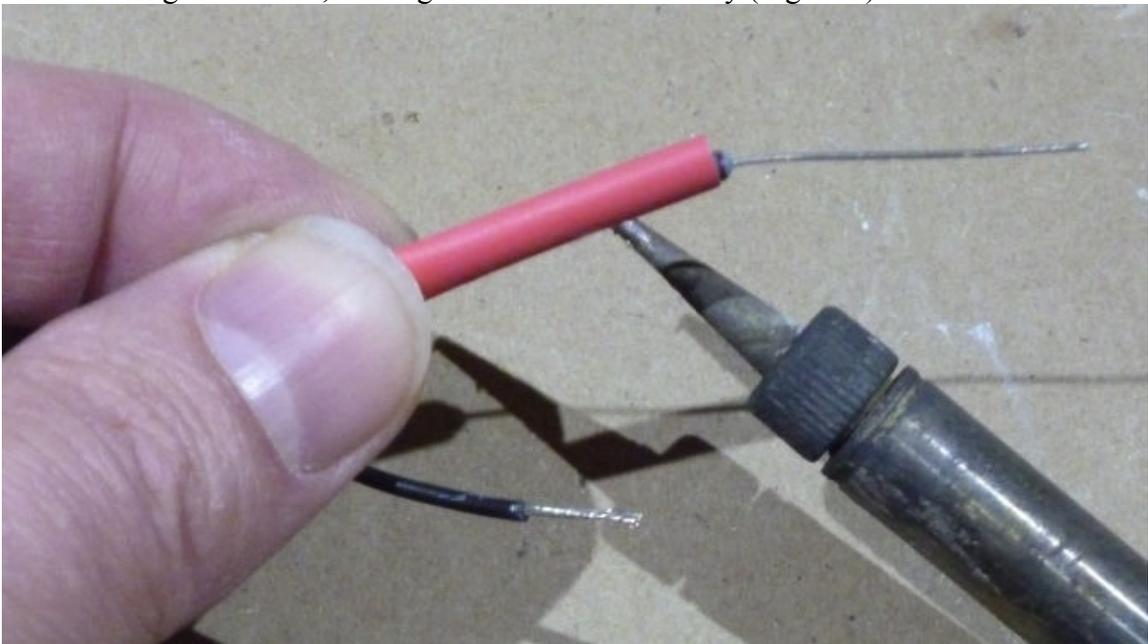

Figure 6-shrink the tubing with heat from the soldering iron
10. Slide the soldering iron back and forth over the length of the heat shrink tubing as you work your way around the diameter (Figure 6). This causes the heat-shrink tubing to contract, making a trouble-free assembly (Figure 7).